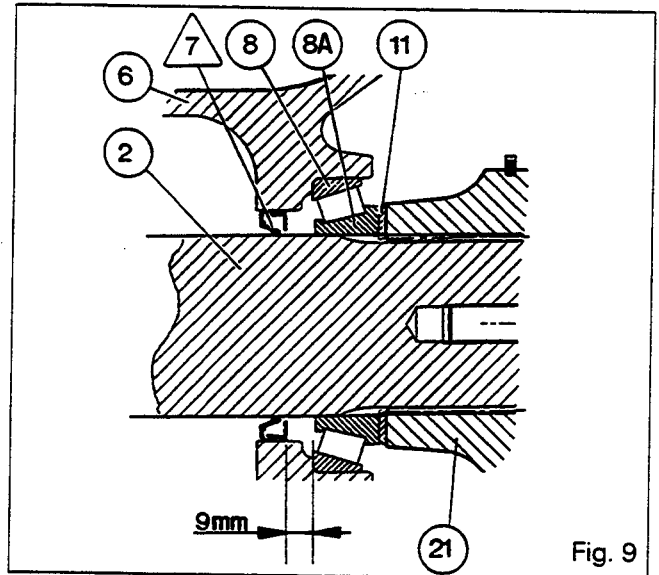

Fig. 9
- the spur washer (11) (Fig. 9)
4. Withdraw the shaft (2) from the trumpet housing.
- the cup (5)
- the housing (4) for seal /3\
- the cup (8)
So that the seal lip is not in the same place on the shaft, press on the seal until it is 9 mm from the shoulder of the cup (Fig. 9).